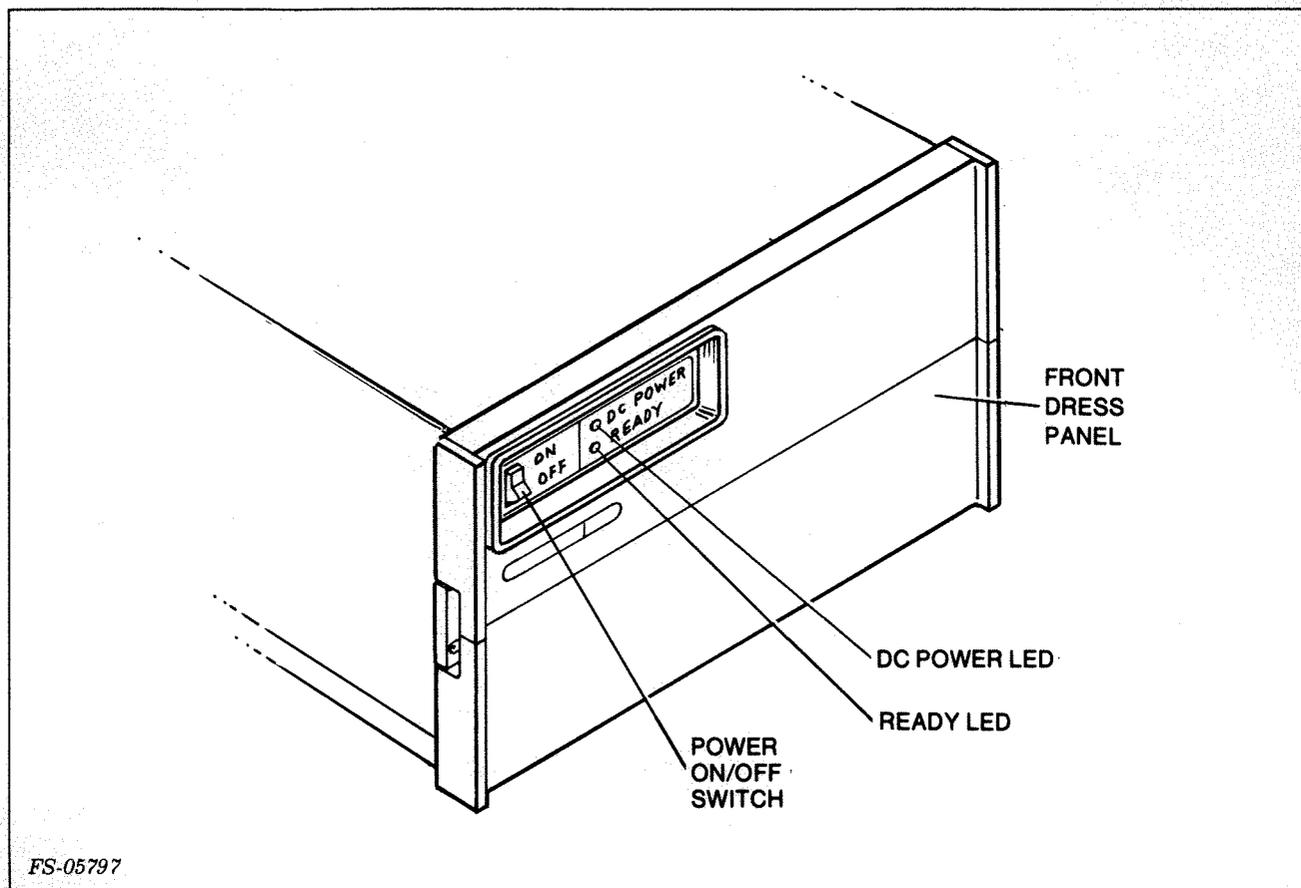

Figure 6-12. Disk Subsystem Front Panel Indicators and Switches
3. Place the power ON/OFF switch to the ON position. When the spindle motor is up to speed. The READY LED goes on (Figure 6-12).